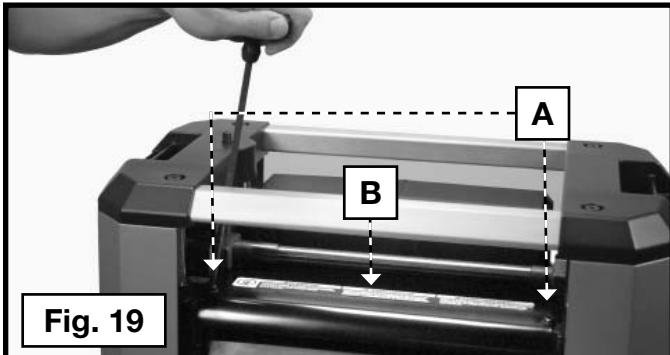

Fig. 19
1. Raise the head assembly (B) Fig. 19 to 4" (102 mm) on the “Scale and Pointer”.
2. Remove the screws (A) Fig. 19. Pull the chip deflector or dust collection attachment – whichever is installed – (B) straight out.